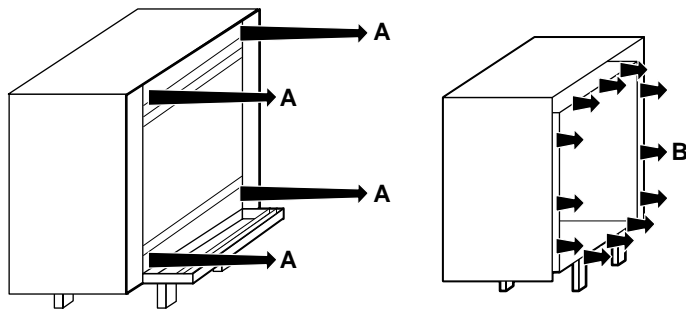

fig. 5
1. Remove the front by loosening the screws A (see fig. 5).
2. Remove the glass by removing the glass clamps (B) for instance with a screwdriver. Careful when removing the glass! (see fig. 5). Wear gloves! Before placing the glass back, be sure that there are no fingerprints on the glass, it is not possible to remove those prints after you burn the appliance or a while (they will be burnt in).